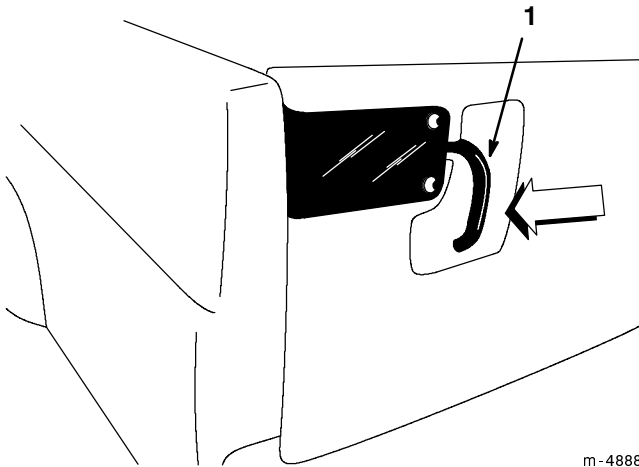

Figure 19
1. To open the tailgate latches, push the latches toward the outside of the vehicle (Fig. 19).